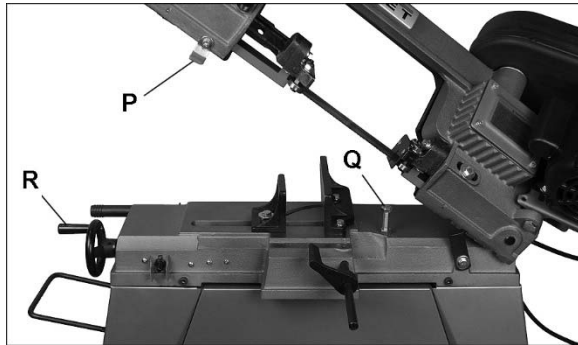

Figure 21
- If saw completes cut but blade continues moving, adjust switch trip (P, Figure 21) downward.
- If blade stops before cut is complete, adjust switch trip (P) upward.
- If blade stops descending and continues running without completing the cut, turn stop bolt (Q) down.
Use handwheel (R, Figure 21) to open and close vise.
- Raise bow and secure in position using support, as shown in Figure 21.